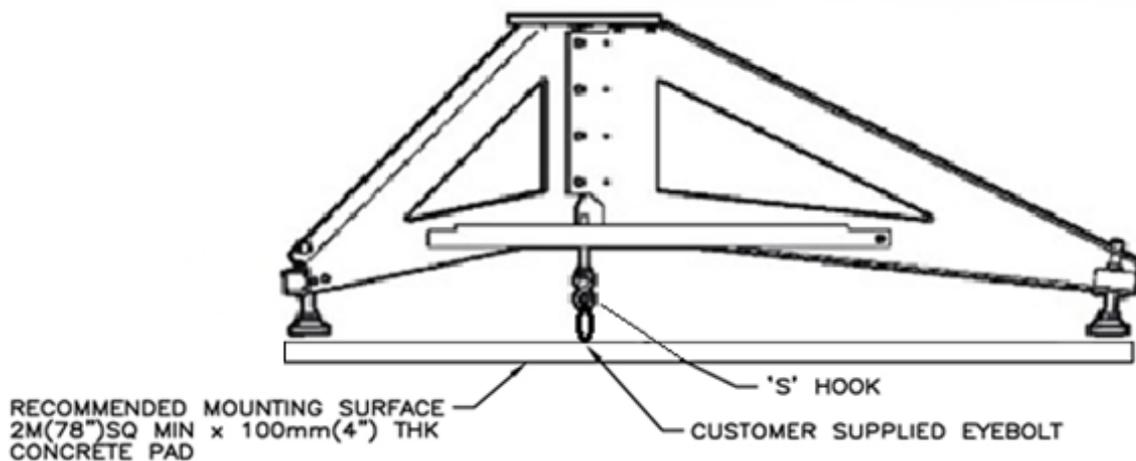

Figure 12 Securing the Tripod
6. Use the Tripod 'tie-down kit' to secure the tripod against movement due to accidental bumping or high winds. See Figure 12.